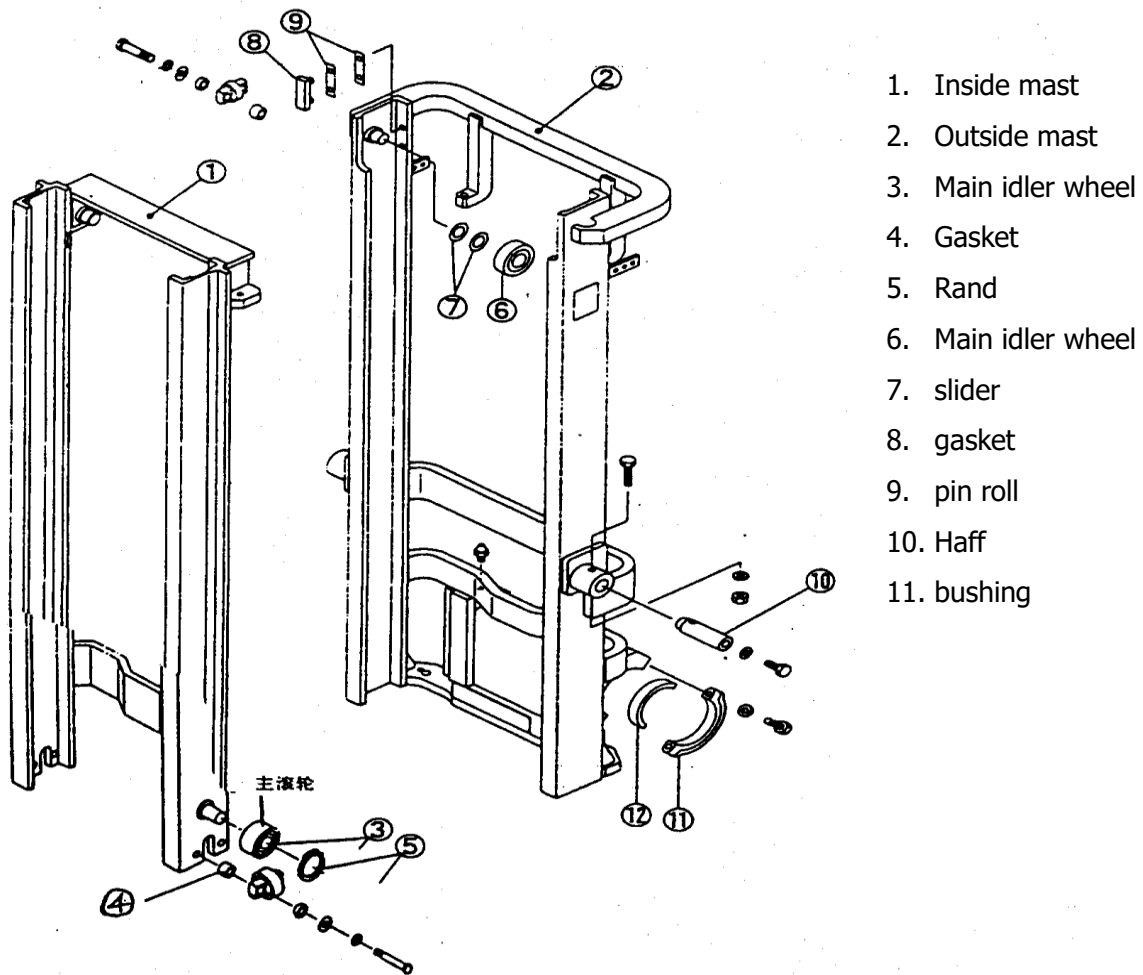

Figure 5.2 Inside and outside mast
5.2 Inside and outside mast (figure 5.2)